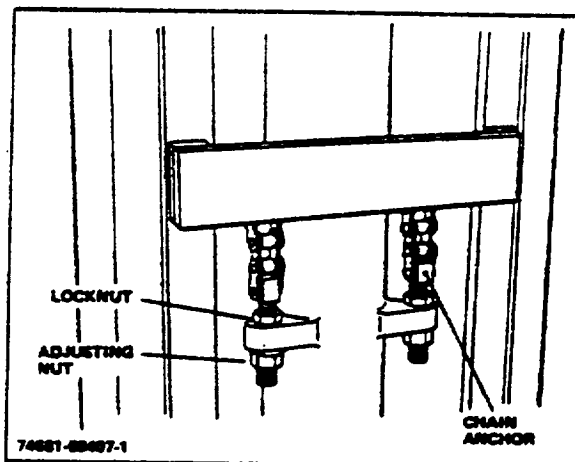

Figure 3-1. Chain Adjustment (On Cylinder)
2. Loosen the chain anchor locknuts (Fig 3-1).